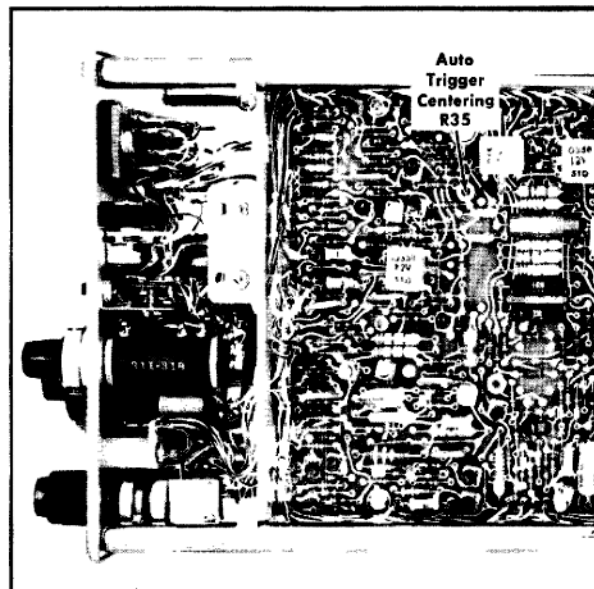

Fig. 6-4. Location of Auto Trigger Centering adjustment (right side).
- ADJUST—Auto Trigger Centering adjustment, R35 (see Fig. 6-4), for a stable CRT display for both + and - slope triggering.